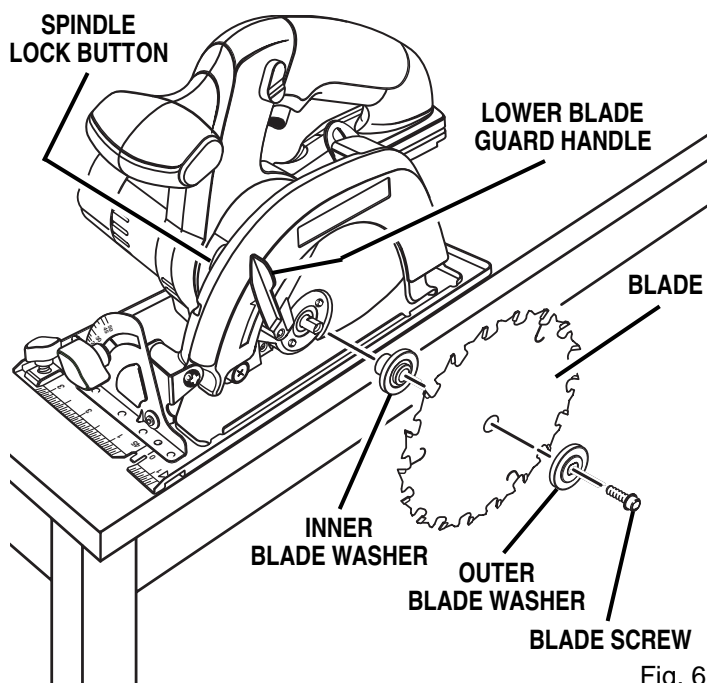

Fig. 6
See Figure 6.
- Depress spindle lock button and remove blade screw and outer blade washer. See Figure 6.
Note: The saw teeth point upward at the front of saw as shown in figure 6.